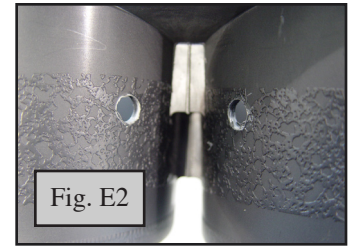

Fig. E2
- ii. Drill the lamp hole with a letter “9/32” drill bit. (Fig. E2)